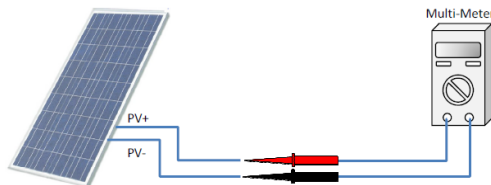

Fig. 3-13 DC Cable Polarity Detection
- (1) Please refer to Fig. 3-13 to confirm the DC input configuration and ensure that the maximum open circuit voltage of each photovoltaic module is lower than 1100 Vdc under any conditions (considering the negative temperature coefficient of the battery panel, special attention should be paid to the lowest ambient temperature. The open circuit voltage of the photovoltaic array is lower than 1100V);
- (2) Before DC connection, it is necessary to make sure that the photovoltaic modules of the same input area should be the same, including the same model, the same number of panels, the same inclination angle, and the same azimuth;
(3) The short-circuit current of each string is less than 30A (less than 26A for 110kw series).
Before connecting the PV module cable to the inverter, please refer to Fig. 3-13 and proceed as follows: